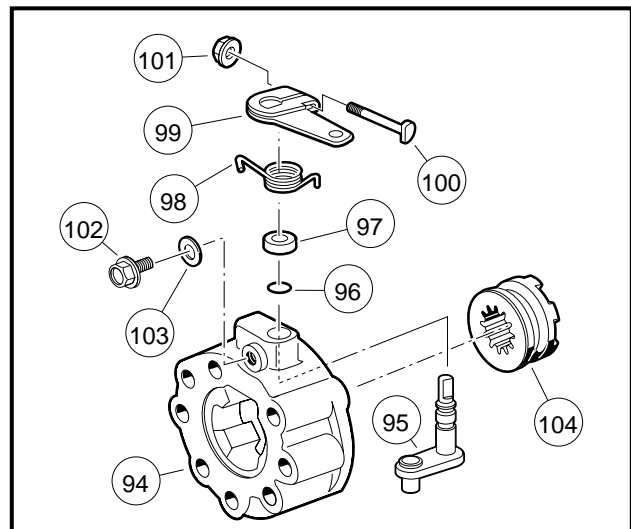

Figure 16-74 Differential Lock Housing Assembly
2. Place the shaft (95) into the hole in the differential lock housing (94) (**Figure 16-74, Page 16-31**).
3. Install the retaining screw (102) and washer (103) into the differential lock housing. Ensure that the screw is aligned with the second groove in the differential lock shaft before continuing to tighten the screw (**Figure 16-74, Page 16-31**). Tighten the screw to 69 in-lb (7.8 N·m).
4. Place the spacer (97) onto the differential lock shaft (**Figure 16-74, Page 16-31**).
5. Install the spring over the spacer so that the straight end of the spring will rest on the axle tube side of the differential lock housing (**Figure 16-74, Page 16-31**).
6. Place the differential lock arm (99) on the shaft (95) and place the hooked end of the spring (98) on the arm (**Figure 16-74, Page 16-31**).
7. Tighten the differential lock arm retainer nut (101) to 60 in-lb (6.8 N·m) (**Figure 16-74, Page 16-31**).
- 11.4. Rotate the differential lock shaft (95) and insert the cog (104) into the differential lock housing (94) (**Figure 16-74, Page 16-31**).